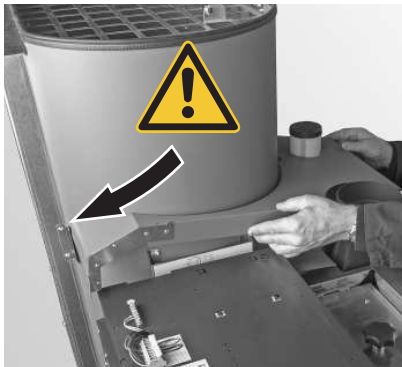

Fig. 76 Position the cladding carefully at the top left
- ▶ Carefully insert or position the cladding, top left, to ensure that the integral fuel hopper is not scratched at the front – Fig. 76.